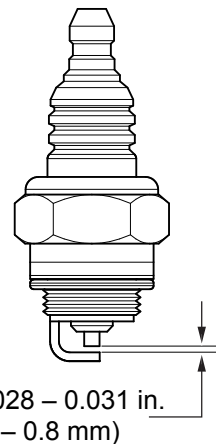

Figure 62. Spark Plug
1. Remove the spark plug (Figure 62) and clean it with a wire brush if it is to be reused. Replace the spark plug if the insulator is cracked or chipped.
2. Using a feeler gauge, adjust the spark plug gap (Figure 62). The gap should measure 0.028–0.031 inch (0.7–0.8 mm).